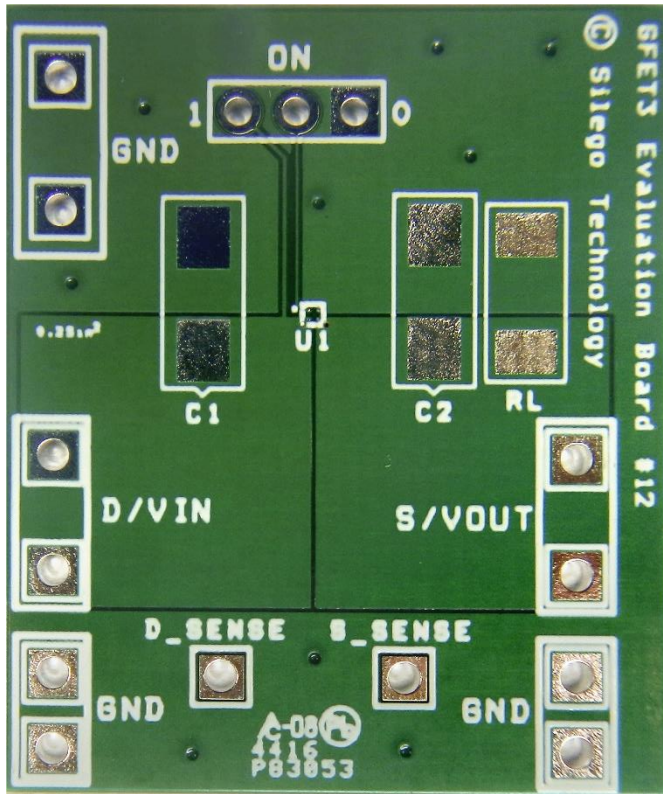

Figure 3. SLG59M1730C Evaluation Test Board
- 2.2. The D/VIN and S/VOUT pins carry significant current. Please note how the D/VIN and S/VOUT pads are placed directly on the power planes in Figure 3, which minimizes the RDS_{ON} associated with long, narrow traces. The D/VIN, S/VOUT and GND pins dissipate most of the heat generated during high-load current condition. The layout shown in Figure 3 is illustrating a proper solution for heat to transfer as efficiently as possible out of the device.